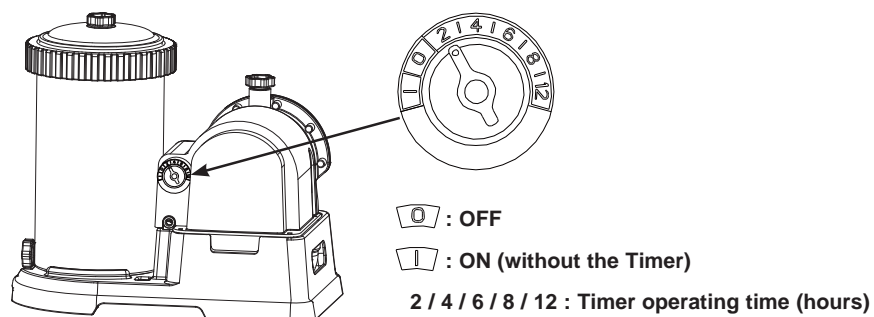

FIG 10
- A. Plug the power cord into the electrical outlet and set the timer dial to the desired operating hours (**see Fig. 10**). See the "Operating Time Table" for the required operating hours related to each pool size.